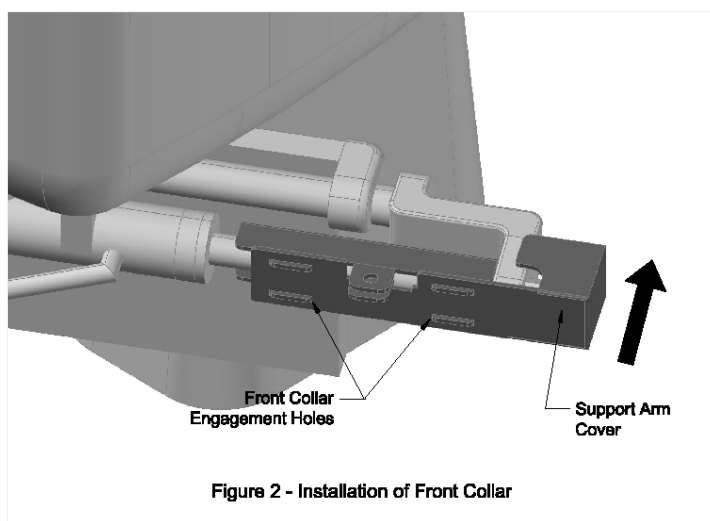

Figure 2 - Installation of Front Collar
4. Using your other hand, hold the front collar directly ahead of the rear collar with the support arm cover furthest away from the outboard. Align the engagement teeth holes of the front collar with the engagement teeth of the rear collar. Once aligned, push the front collar onto the rear collar and over the steering support arm (see Figure 2).